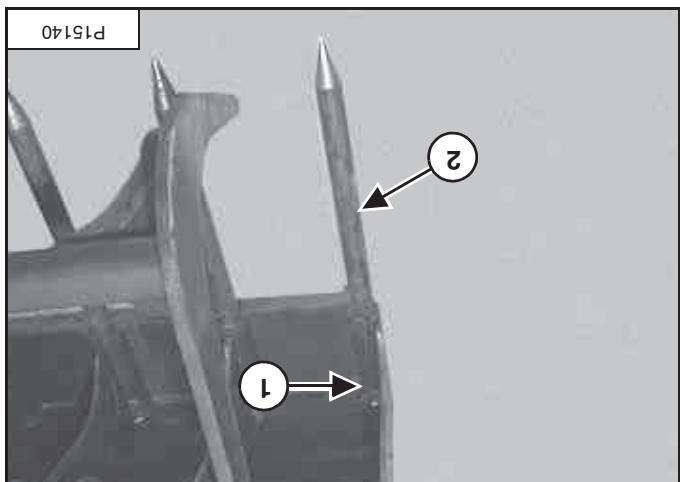

Figure 103
[Figure 103] Remove the roll pin (item 1) from the line (item 2).